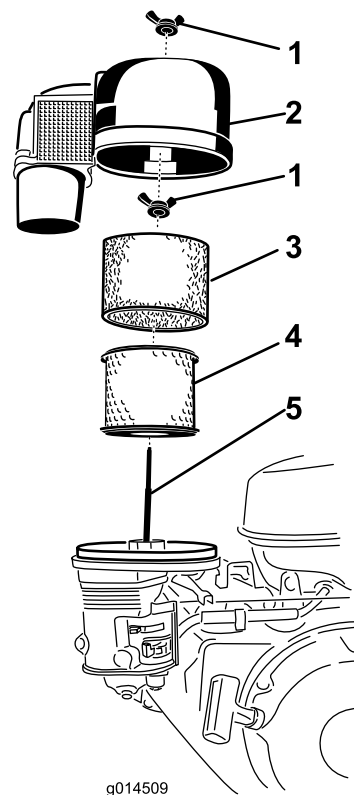

Figure 14
3. Remove the wing nut and lift off the air-cleaner cover with the air-filter cowl (Figure 14).
4. Remove the foam element (Figure 14).
5. Remove the wing nut on top of the paper element and remove the paper element (Figure 14).
1. Clean the paper element by tapping it gently to remove dust. If it is very dirty, replace the paper element (Figure 14).